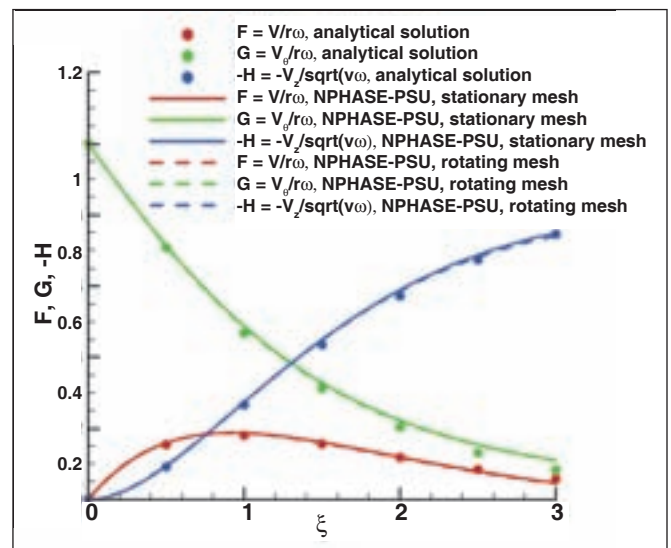

Figure 7—Comparison of *NPHASE-PSU* and exact solutions for the infinite span rotating disc.
*NPHASE-PSU* was applied using two approaches. Approach 1 solves the absolute velocities in the absolute frame on a stationary grid (adapting disc boundary conditions accordingly). Approach 2 solves for absolute velocities in the absolute frame using a time-accurate analysis on a rotating mesh. Figure 7 illustrates that the code returns the exact solution for both simulations to within the accuracy of the second-order accurate discretization numerics and grid used.